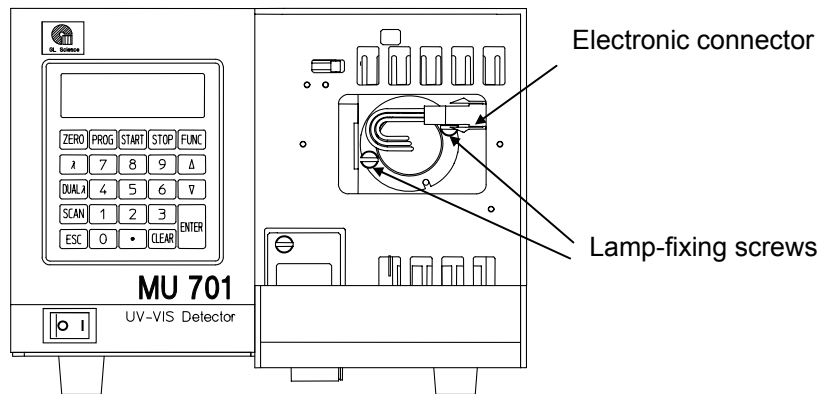

Fig.4-5: Connector of the lamp power
5. Disconnect the electronic connector of the lamp power shown in Fig.4-5.